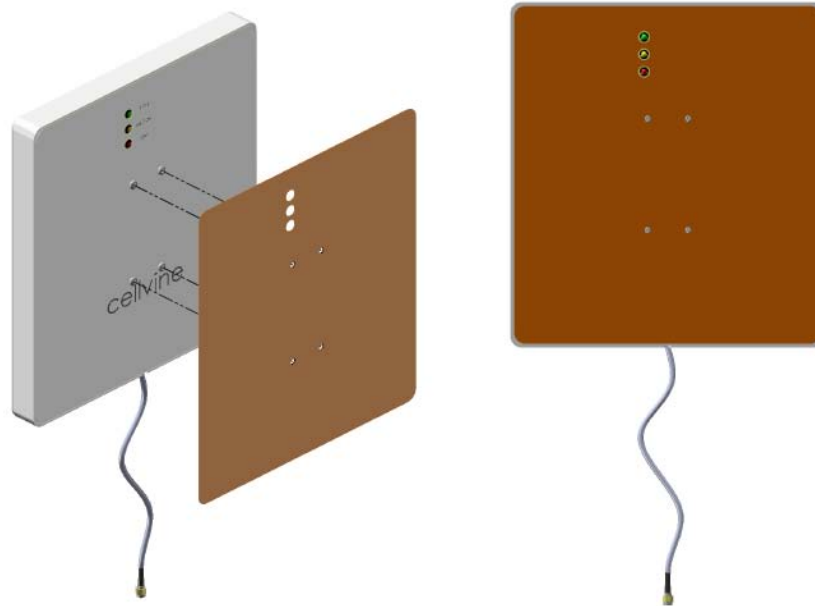

Figure 12: Making holes in back panel sticker for rear wall bracket installation
3. Use the supplied four screws to attach the appropriate bracket part to the back of the antenna, see Figure 12.